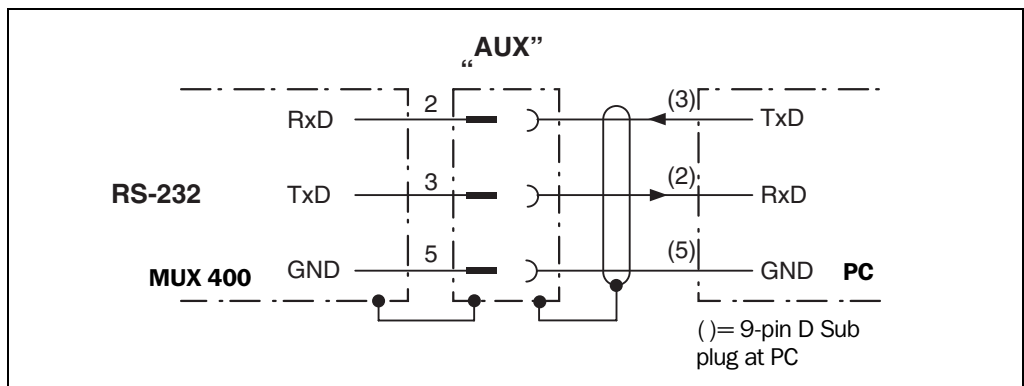

Fig. 5-4: Connecting the terminal interface
The MUX 400 is configured with the “CLV Setup” program. In order to do so, you must connect the device to the PC via the terminal interface (auxiliary interface). Unlike the host interface, the terminal interface has a permanent data format and a fixed data transfer rate. Fig. 5-4 shows how the terminal interface is connected. The cable length is not to exceed 10 m (32.8 ft).
- Connect the terminal interface as shown in Fig. 5-4.